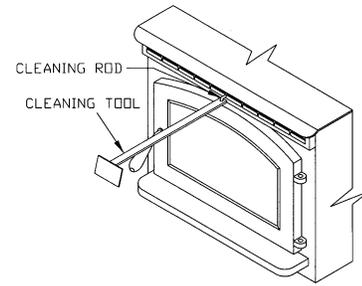

FIGURE 24
- With the door closed clean heat exchanger tubes. (See "**CLEANING**" and Figure 24).
- a. **Heat Exchange Tubes** – Your Breckwell stove is designed with a built-in heat exchange tube cleaner. This should be used every two or three days to remove accumulated ash on the tubes, which reduces heat transfer on the P23. Insert the handle end (with hole) of the cleaning tool onto the cleaning rod (refer to figure 24). The cleaner rod is located in the grill above the stove door. Move the cleaner rod back and forth several times to clean the heat exchanger tubes. Be sure to leave tube cleaner at the rear of the stove.